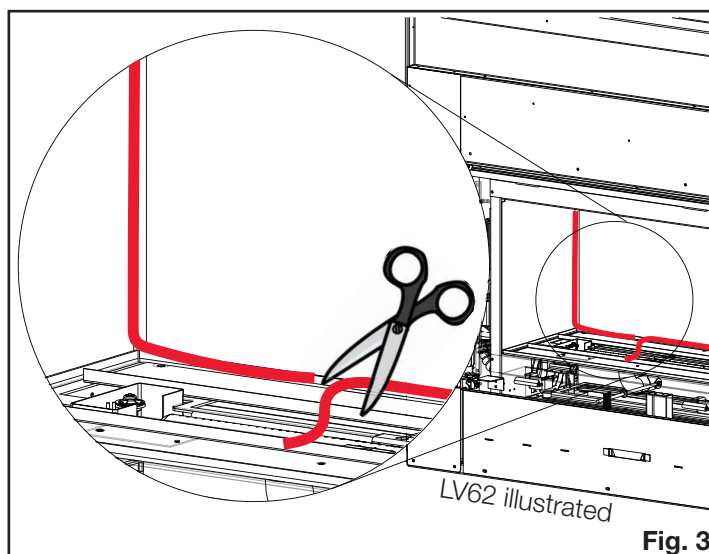

Fig. 3
8. Once installed the entire distance, trim excess gasket and tuck ends into place (**Fig. 3**).